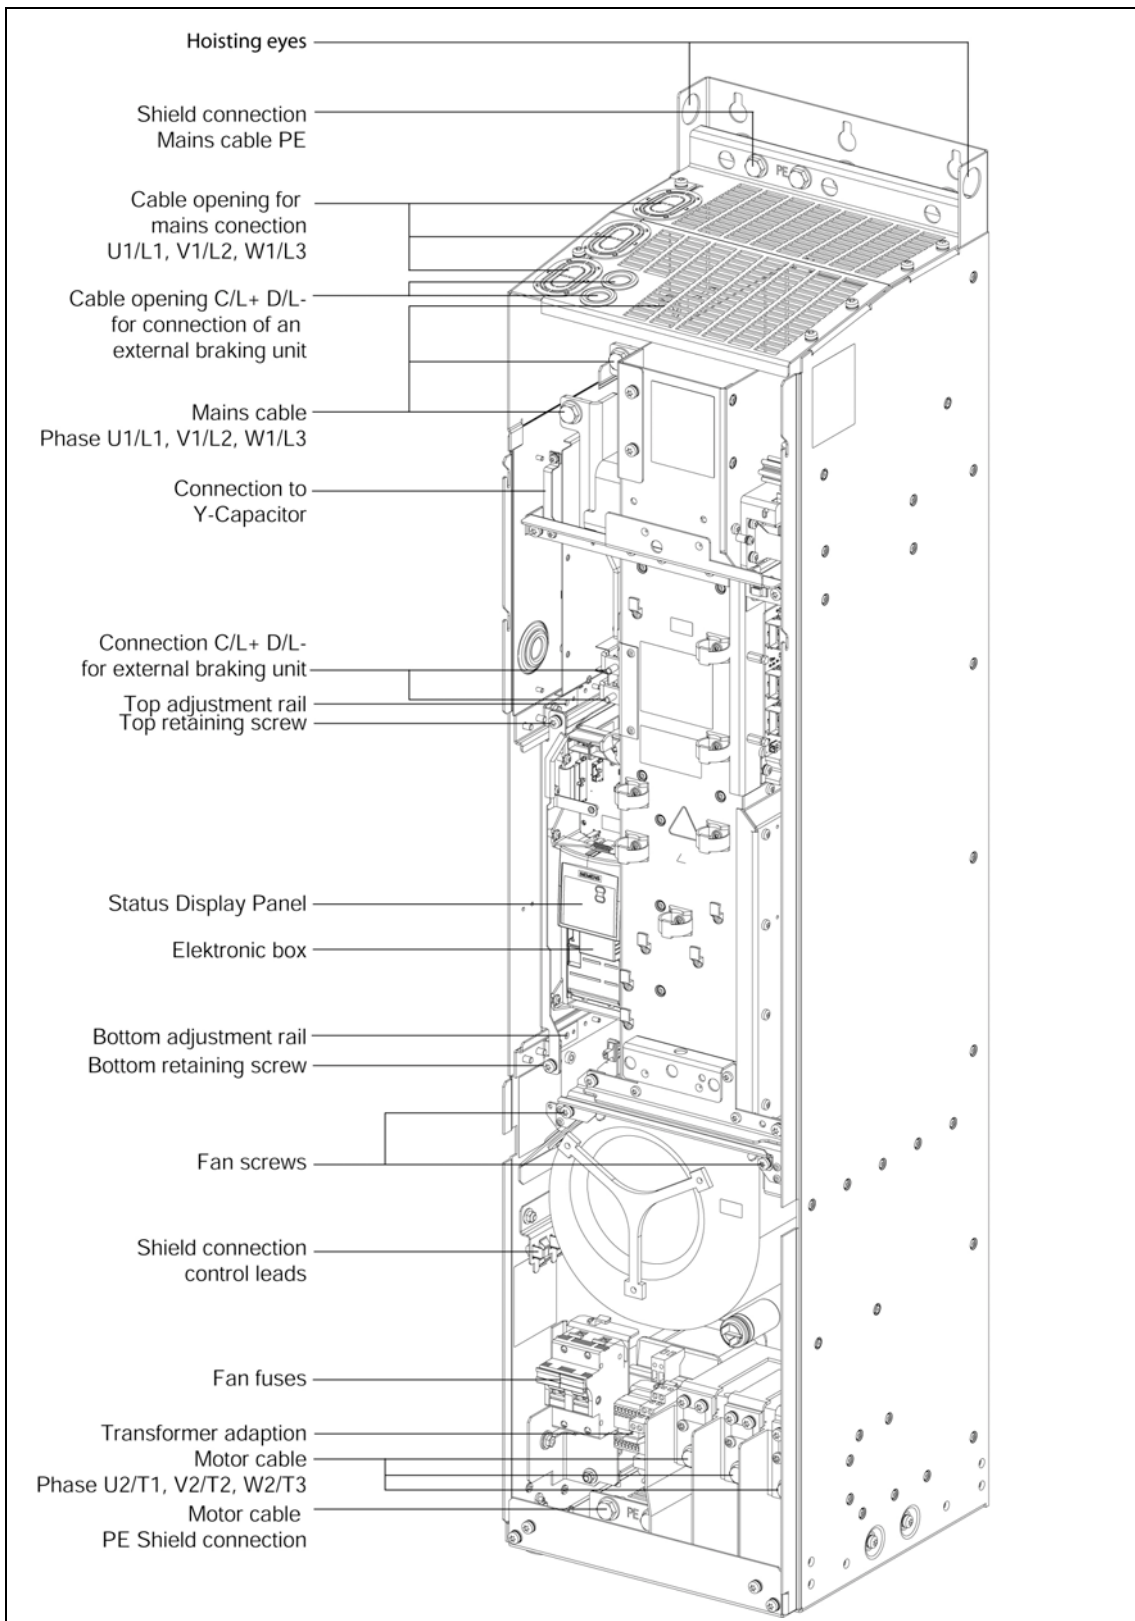

Figure 2-9 MICROMASTER 430 connection drawing – frame size FX
1. Fasten the hoisting crane cable to the 2 hoisting eyes on the inverter (see Figure 2-9 for frame size FX, Figure 2-10 for frame size GX).
Connect the wire shields to the shield connection points shown in the connection drawing (see Figure 2-9 and Figure 2-10) .